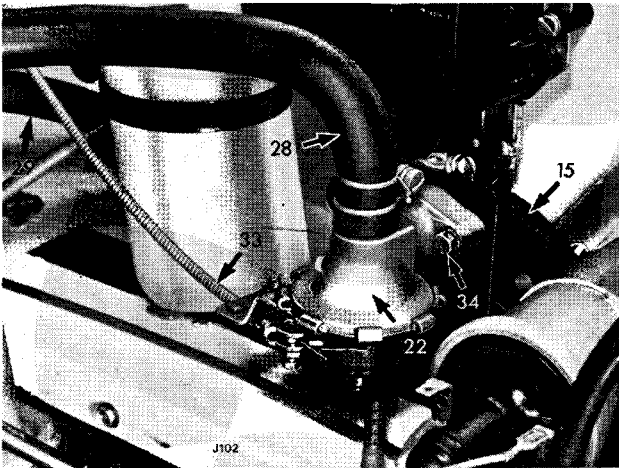

Fig. 69. Water control valve
2. Disconnect the heater hoses (15) and (29) from the heater box pipes (Fig. 69). Take out two screws securing the coil and water valve mounting bracket to the dash shelf, move the bracket (17) complete with valve away from the dash.